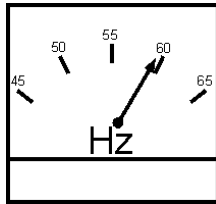

Figure 28. Frequency Meter (Hz)
9. The generator's frequency meter (Figure 28) displays the 60 cycle output frequency in **HERTZ**.